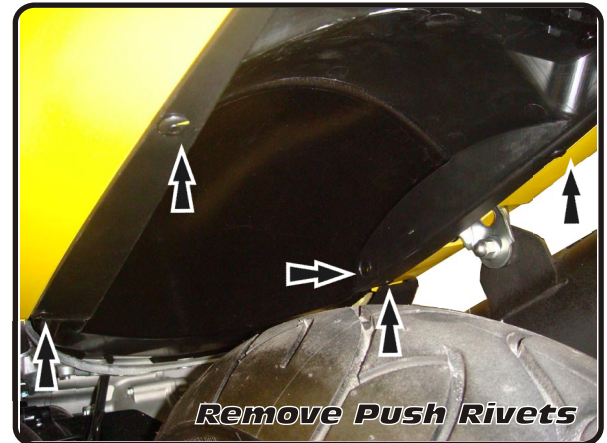

Fig. 5
- Remove the undertail by removing the push type rivets. (Fig. 5)